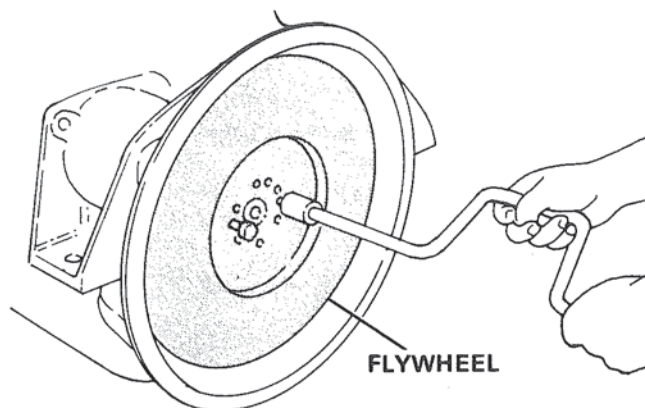

Figure 13. Remove Flywheel.
D. Thread flywheel bolts into blind flywheel holes until bolts bottom against crankshaft flange. Figure 13.